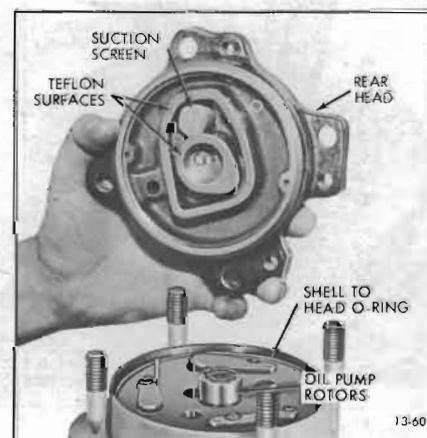

Figure 13-60—Rear Head Removal
**NOTE:** If teflon surfaces are damaged (see Figure 13-60), replace rear head. Clean or replace suction screen as necessary.